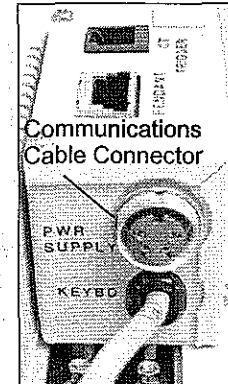

Figure 5-25: Remote Connector
2. Disconnect the cable at the Power Supply and at the Remote Control (see Figure 5-25).